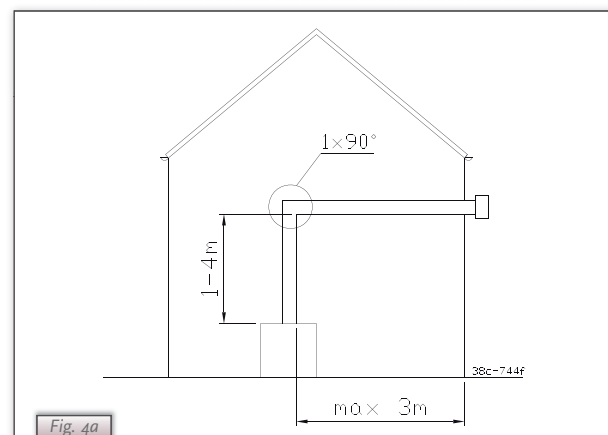

Fig. 4a
- ▬ When using a minimum 1 up to maximum 4 meter vertical pipe length, the total horizontal pipe length may have a maximum of 3 meters (wall duct not included; see Fig. 4a).
- 2) a minimum 1 meter and maximum 4 meter vertical pipe length in combination with a 90° bend and a maximum 3 meter horizontal pipe length and a wall duct (see Fig. 4a).